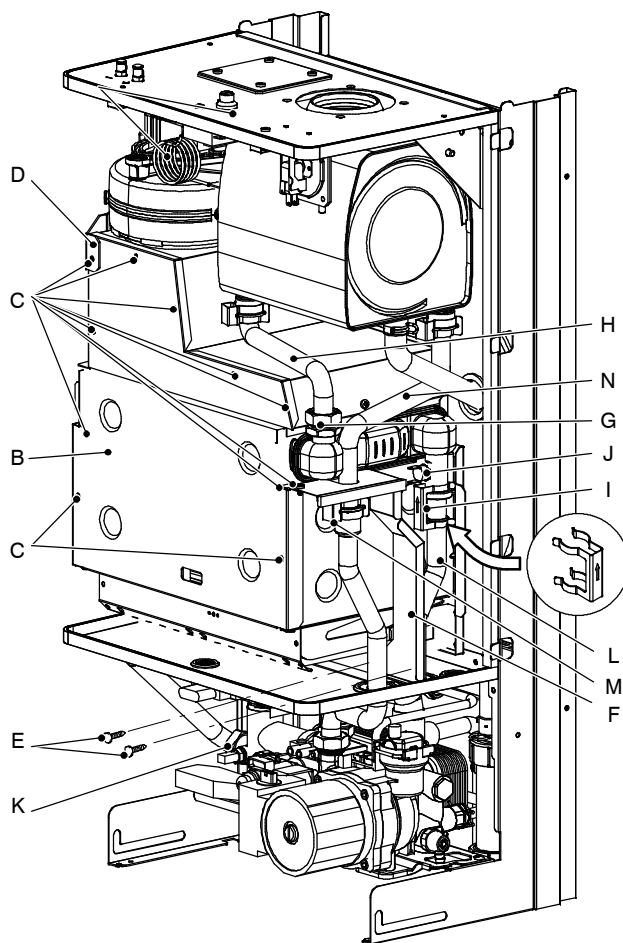

Fig. 11
- 3 Remove the combustion chamber lid *B* by unscrewing the screws *C* and removing the clamp *D* (Fig. 11).
- 11 Reassemble the boiler carrying out the removal operations in reverse order. **Fit the clip *I* with the arrow pointing upwards as illustrated in Fig. 11.**